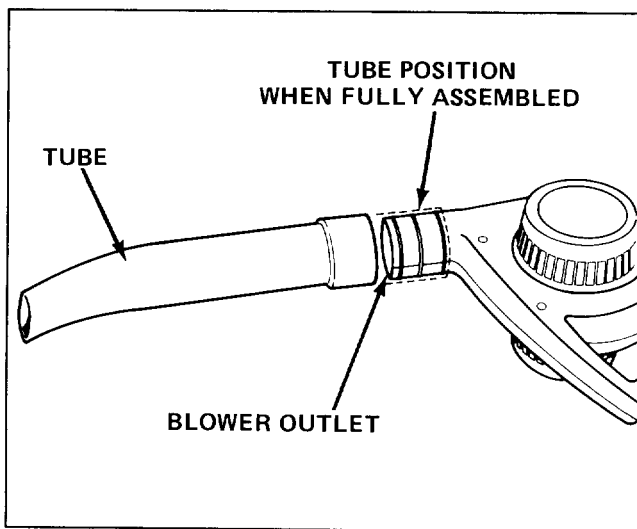

Figure 1
1. Align tube so nozzle curves up when in use (Fig. 1).
2. Push tube onto blower outlet (Fig. 1).